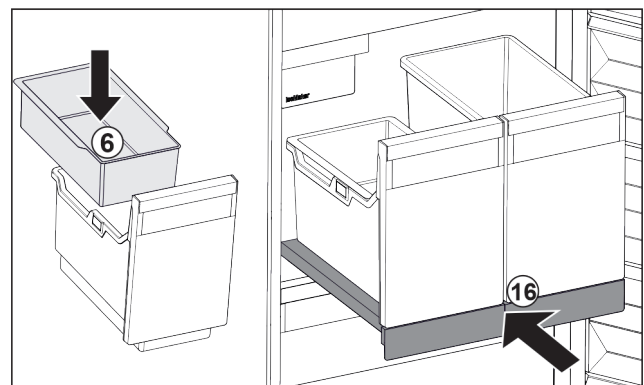

Fig. 104
- ▶ Insert hang-on tray *Fig. 104 (6)* for ice cubes.
- ▶ Slide in the pull-out board with container (IceTower). *Fig. 104 (16)*